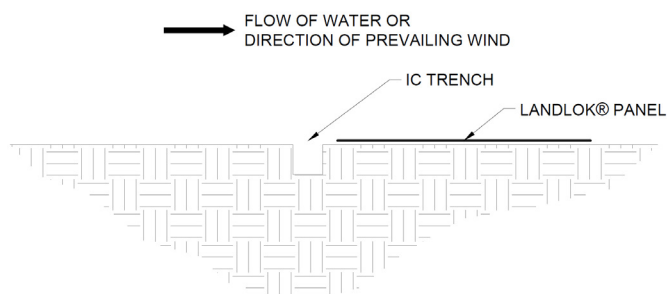

Figure 4: Initial Channel (IC) Trench Alignment
2. Lay the TRM panel on the downstream side of the IC trench (Figure 4). Place the panel edge in the IC trench, ensuring full coverage along the bottom of the entire IC trench with the **PROPEX** Landlok TRM (Figure 5).